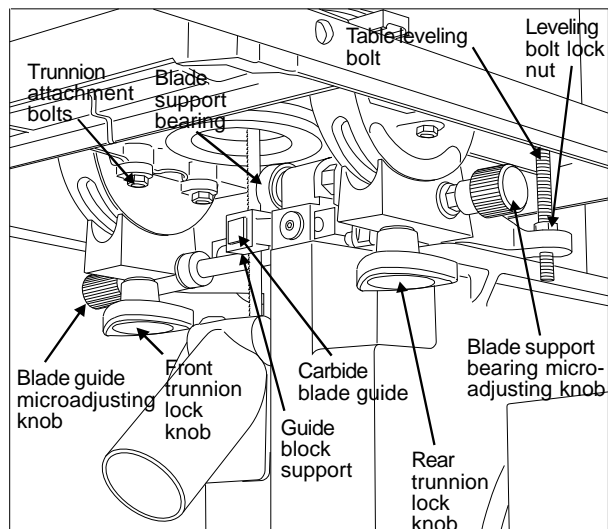

Figure 12. Lower Blade Guide Support Rear View
11. With everything locked down, look at the pointer for the angle gauge. It should be exactly on the zero mark of the gauge (*Figure 12*). If not, loosen the pointer screw, adjust the pointer until it is on zero, then tighten the pointer screw while holding the pointer securely in position on zero.
2. Measure from both ends of the miter slot to the straight edge.3. If the measurements are not equal at both ends of the slot, loosen six bolts securing the table to the table trunnions (see *Figures 12 and 13*.)
17. Using the micro-adjusting knob, move the lower blade support assembly (*Refer to Figure 12*) forward until the support bearing just contacts the back edge of the saw blade.